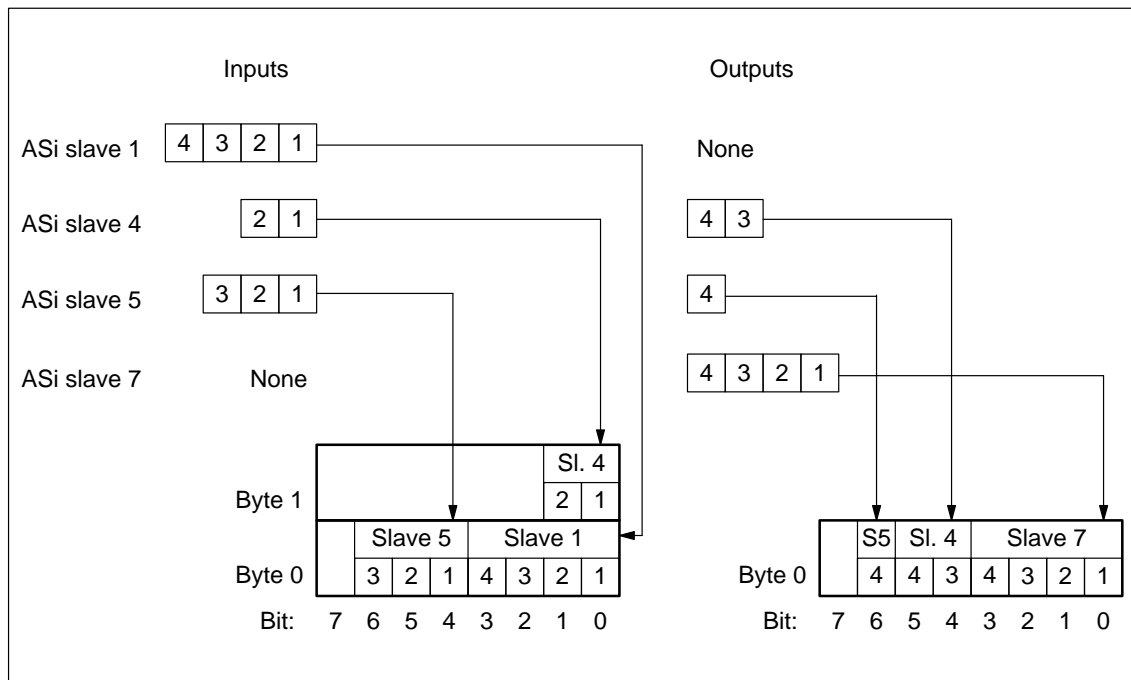

Figure C-1 Sorting ASi slaves into address space template
The position of the first input or output bit in the address space template (refer to Fig. C-1) characterizes every ASi slave. The specifications are important for the address assignment.
The way in which you determine the value of an input or output byte is shown in the table below. ASi slave No. 4, as defined in Fig. C-1, is used in the example.
- Optimization** It has proved sensible to create an address space template for each of the inputs and each of the outputs. Up to 16 bytes of address space can be assigned to every address space template. Fig. C-1 shows an example of an address space template.
Fig. C-1 illustrates the process for optimizing address assignment using the address space template.